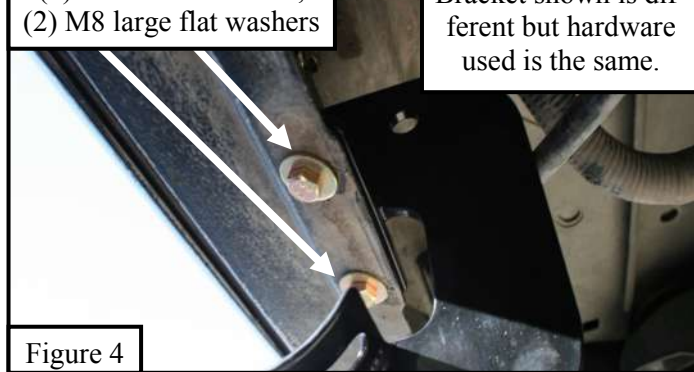

Figure 4
4. Attach the mounting bracket to the bottom holes in the rocker panel using (2) M8 hex cap screws (Item 8), (2) large M8 flat washers (Item 10), (2) small M8 flat washers (Item 9), (2) M8 lock washers (Item 11), and (4) M8 hex nuts (Item 12). Do not fully tighten at this time. See **Figures 4 and 5**.